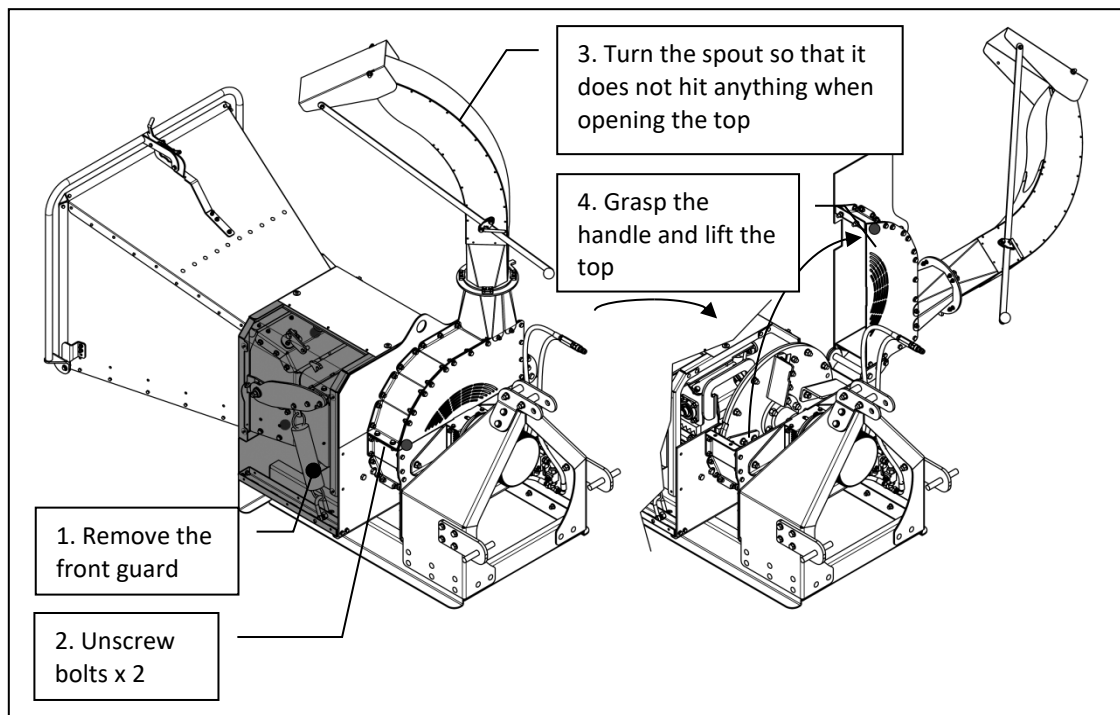

Figure 16
5. The top of the rotor housing can now be opened by grasping the handle on the top and lifting. See Figure 16.